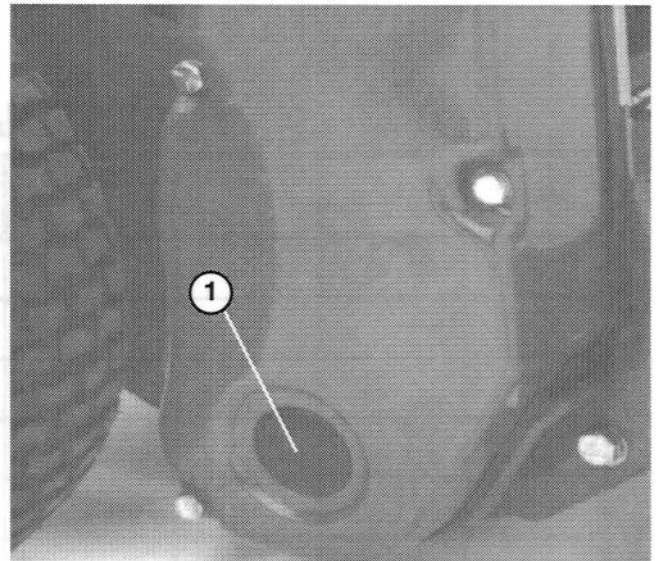

Figure 44
1. Remove plug in right reel drive cover (Fig. 44)